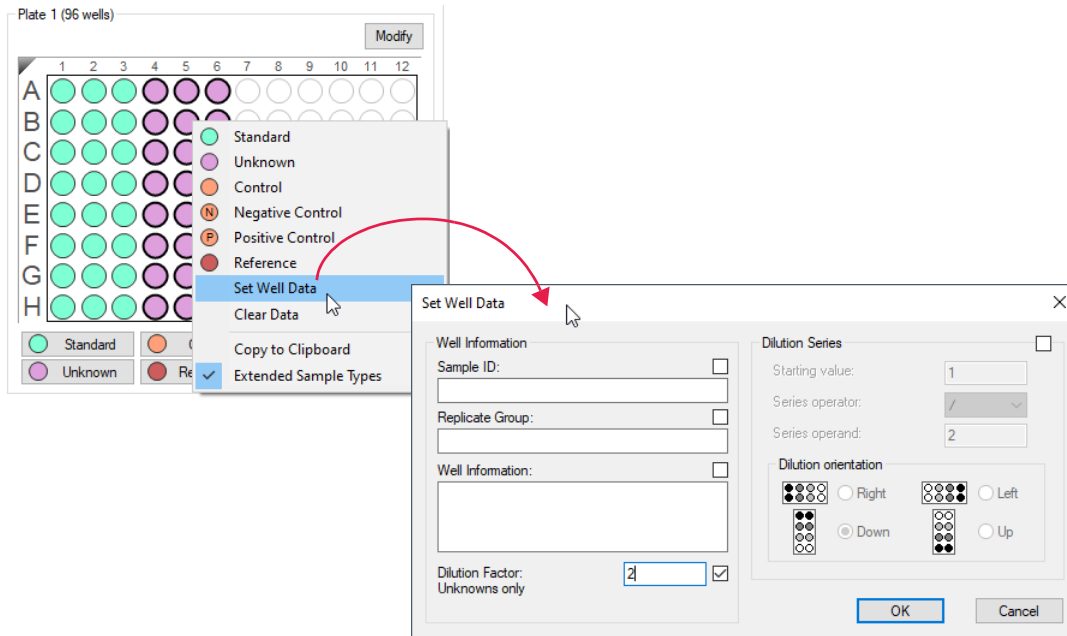

Figure 5-10: Sample Plate Map—Setting a Dilution Factor or a Serial Dilution
The **Set Well Data** dialog box appears (see Figure 5-10).
1. In the **Set Well Data** dialog box (see Figure 5-10), select the **By Value** option.
1. In the **Set Well Data** dialog box (see Figure 5-10), select the **Dilution series** option.
1. In the **Set Well Data** dialog box (see Figure 5-10), double-click a cell in the **Dilution Factor** column for the desired unknown.